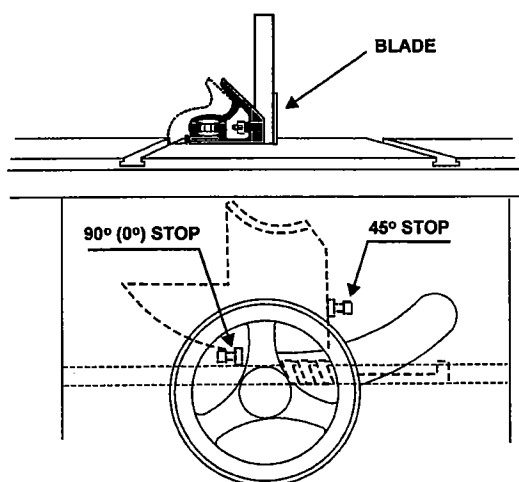

FIGURE 5
Using a combination square, check the 90 deg. (0) and 45 deg. stops as shown in Figure 5. Adjust stop positions if required, using the stop screws as shown. Check the pointer at 90 deg. and readjust if required.